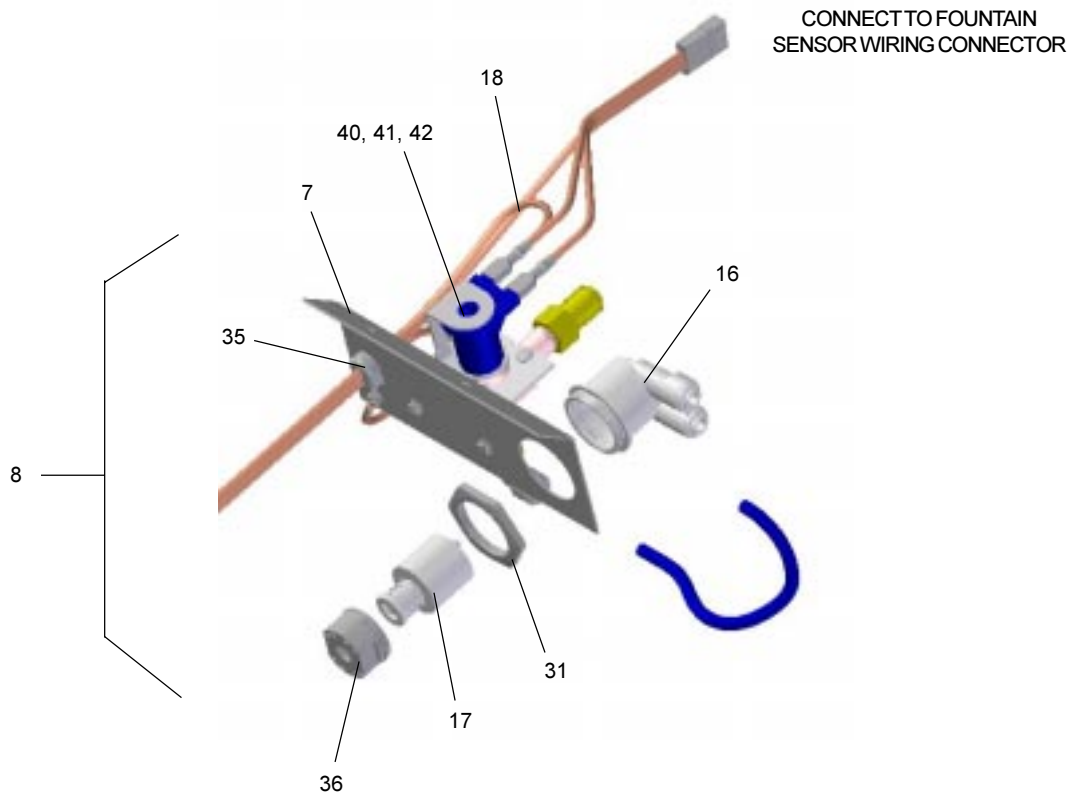

Figure 8 - Regulator Assembly
10. **Connect power cord of sensor to solenoid valve assembly by running it through the back panel and connecting it to terminal shown in Fig. 8.**
14. **Check stream height from bubbler.** Stream height is factory set at 35-40 PSI. If supply pressure varies greatly from this, please do the following. For **Electronic sensor units only**, remove lower panel (Item 26 - Fig. 6) and turn adjustment screw on the regulator (Item 17 - Fig. 8). Clockwise adjustment will raise stream height and counterclockwise movement will lower stream height. For best adjustment stream should hit basin approximately 6-1/2" from the bubbler.